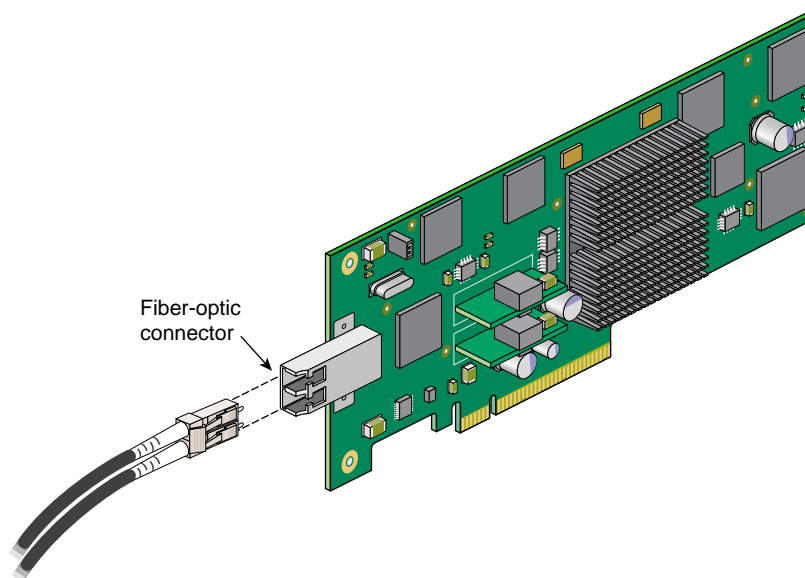

Figure 2-1 Connecting the Fiber-Optic Cable
2. Insert the LC connector on one end of the fiber-optic cable into the adapter, as shown in Figure 2-1. Ensure that the connector is inserted completely into the jack.